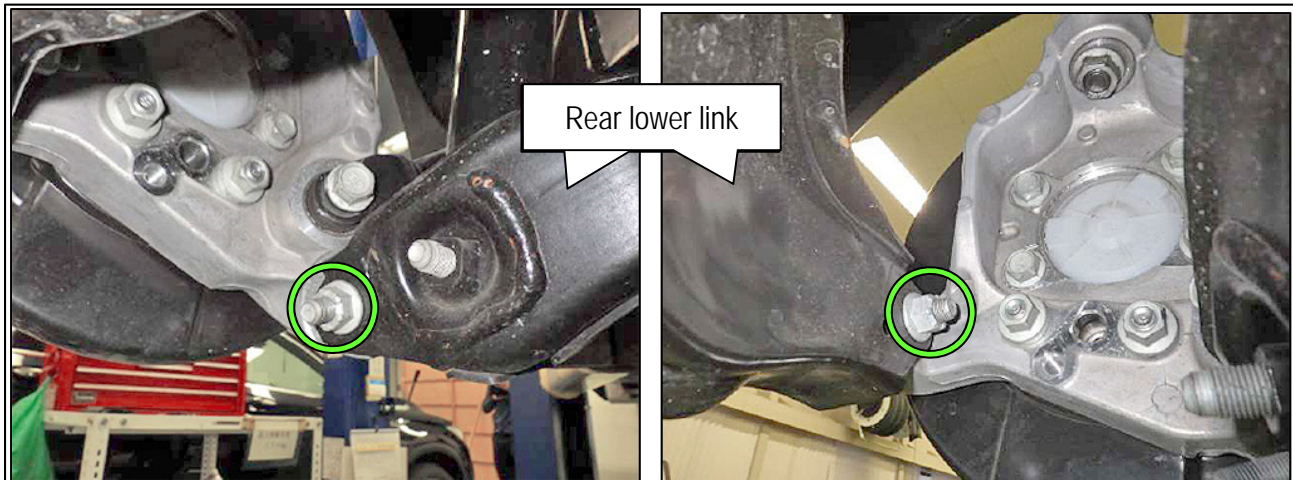

Figure 13
18. Remove the front and rear lower link nuts (18 mm) from the rear knuckle (see Figure 13).